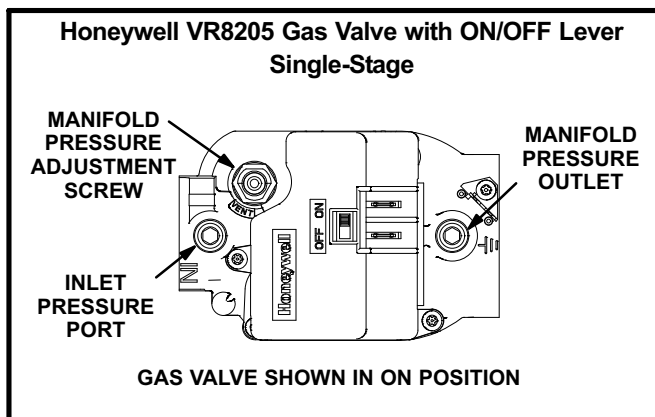

FIGURE 23
Gas Valve Operation (figure 23 and 24)
- 5- *Honeywell VR8205 Gas Valve with ON/OFF Lever* - Switch gas valve lever to **OFF**. See figure 23.
- 7- *Honeywell VR8205 Gas Valve with ON/OFF Lever* - Switch gas valve lever to **ON**. See figure 23.